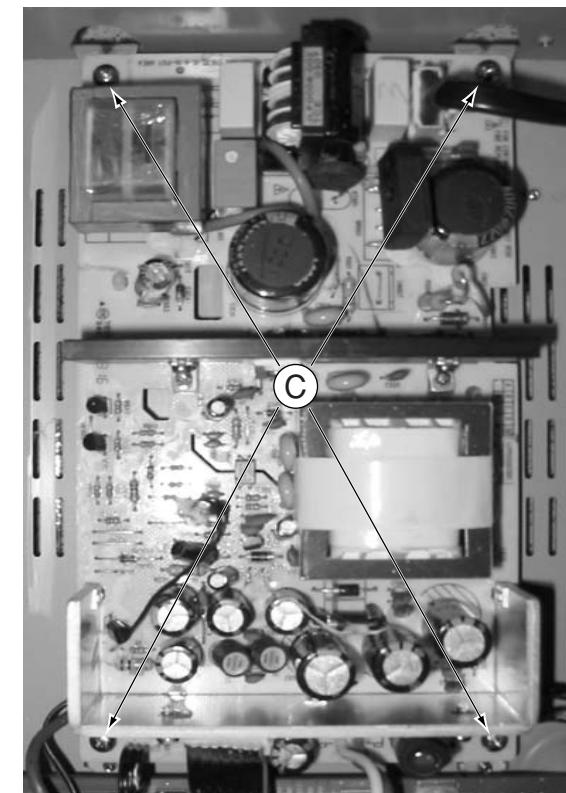

Figure 6
- 3) Loosen 4 screws "C" at the top of the Power Board as shown in figure 6